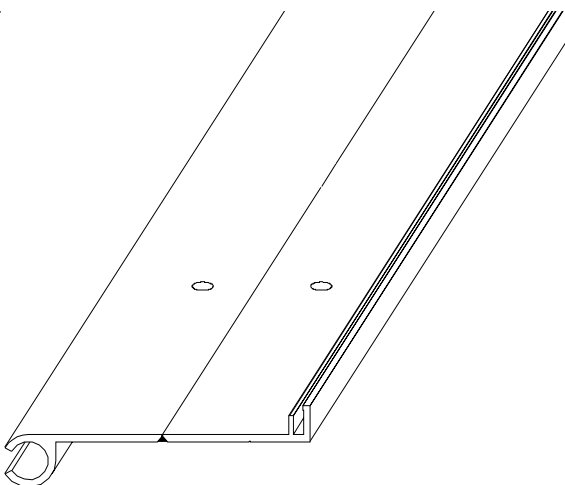

Figure 3
STEP 4. Drill the holes into the base members at the marked locations (see Figure 3).